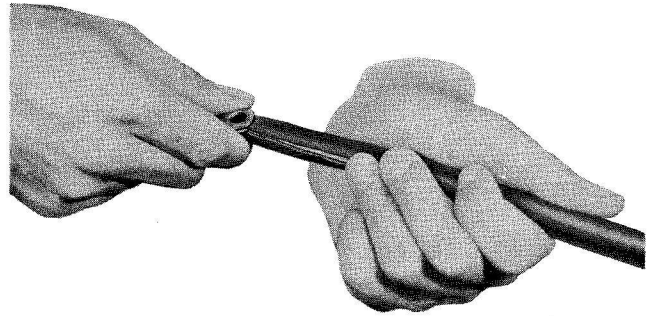

Fig. 8 — Using Cable Stripper
- (1) Support cable between stripper and last attachment.
- (2) Hold cable stripper tool at angle to cable and insert point just under outer covering.
- (3) Pull stripper toward free end of cable (Fig. 8).